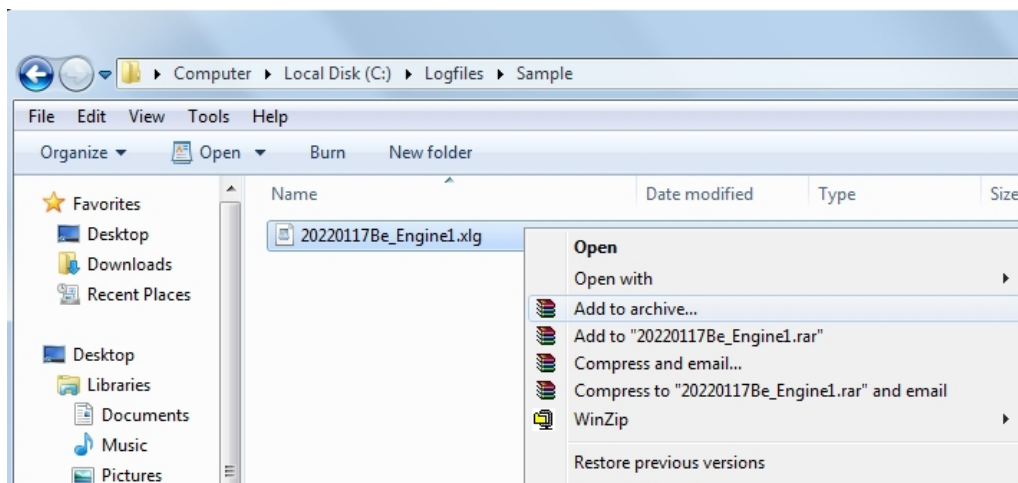

Fig. 6.2 Screenshot of Explorer with Compression menu
- 1) Click on the desired data file which is to be compressed with the right button of the mouse. A menu should pop up (refer to Fig. 6.2).